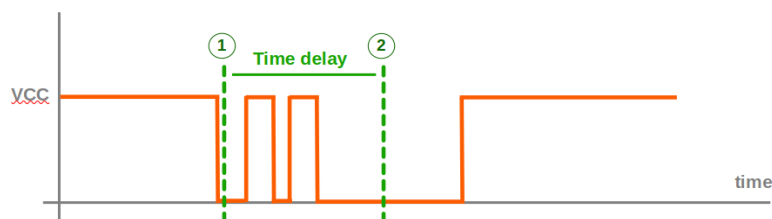

Figure 3: A sample timing diagram for button-input signal
According to the sample timing diagram in **Figure 3**, (1) the MCU detects a signal transition when the input changes from high to low. Some signal bouncing occurs after this transition. (2) After a fixed time delay (e.g. 10~40msec), the MCU rechecks the input to determine whether it is still logic low. During this delay, rapid high/low transitions caused by contact bounce are ignored. If the signal is still in the pressed state (logic low), it is accepted as a valid button press.